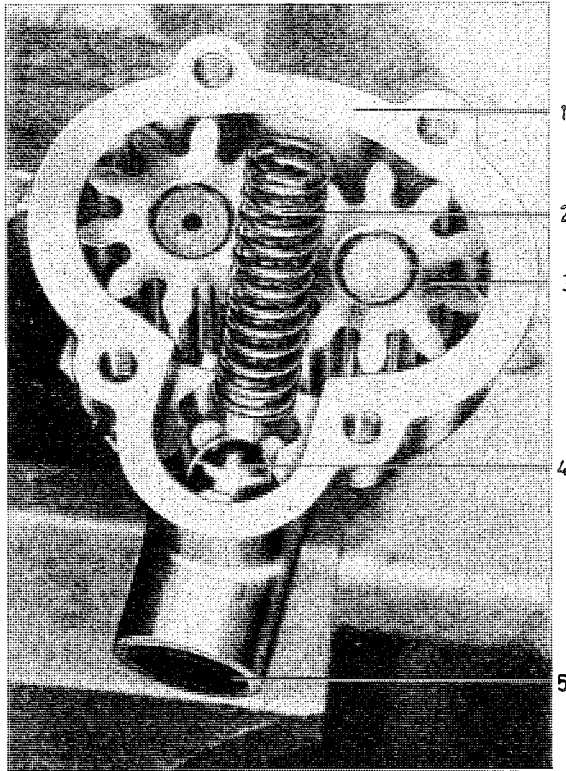

Fig. 2-40. Oil filter ready for installing
2. Coat the rubber gasket (1, Fig. 2-40) of the new filter with oil and make sure that the contact surface for the oil filter is free from dirt. By smearing it with oil, the gasket slides into better contact with the sealing surface. Screw on the filter by hand until it just touches the cylinder block.